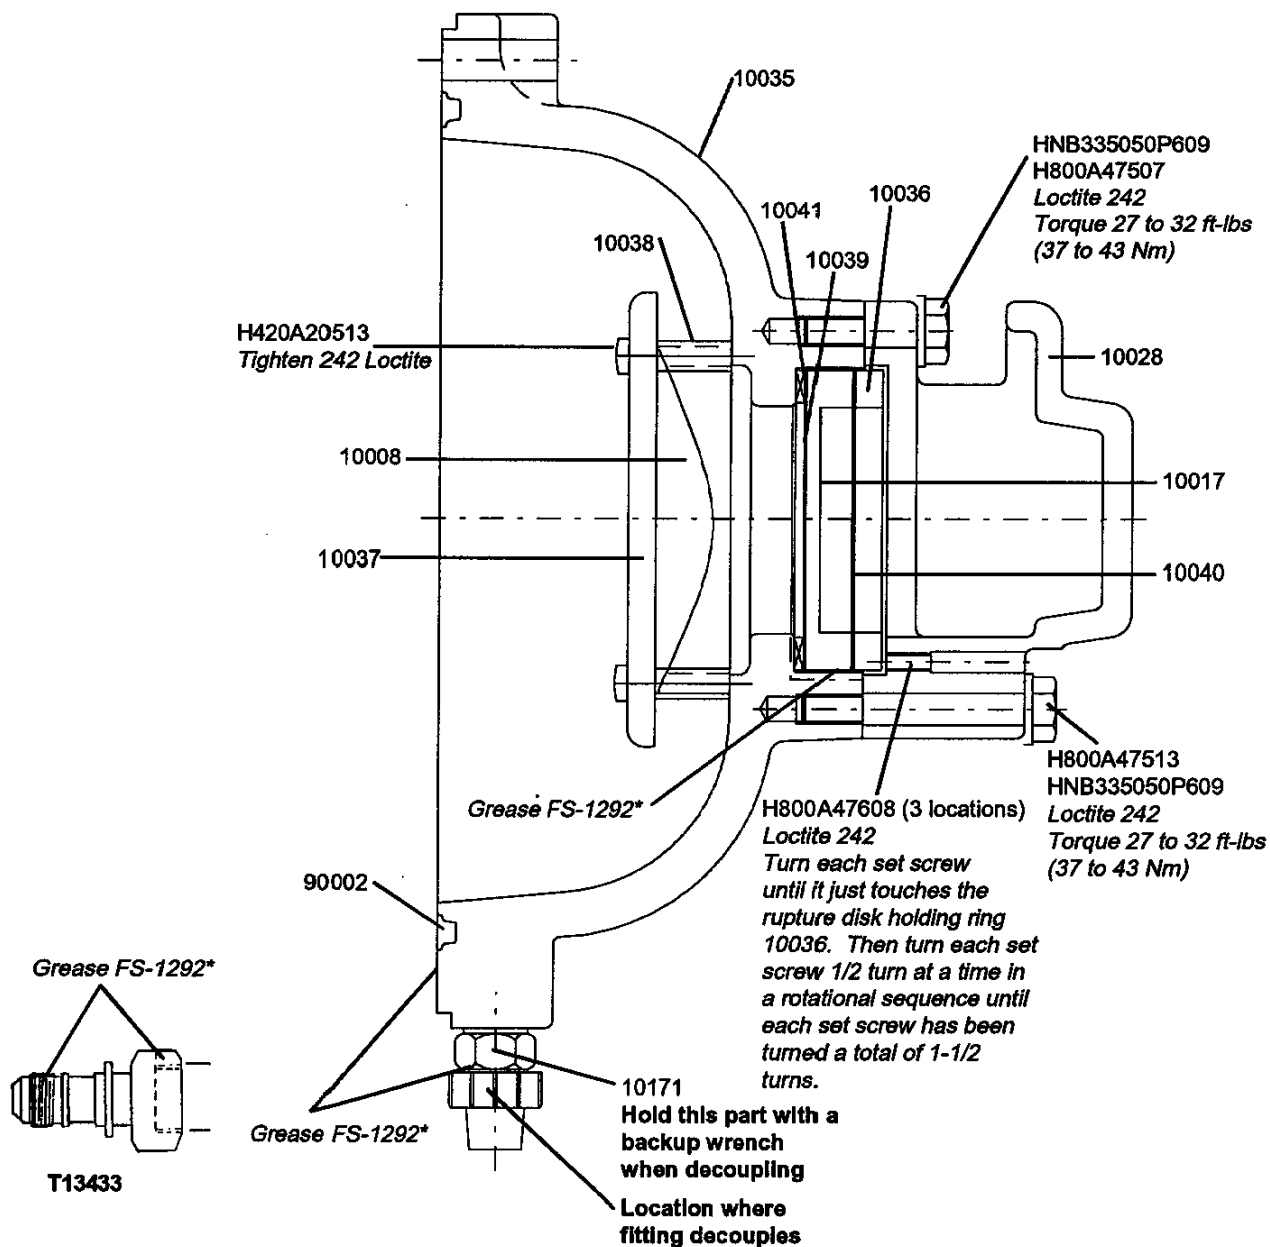

Figure 6
"Desiccant" refers to a molecular sieve which removes moisture as well as SF₆ decomposition products from the gas. A desiccant bag 10008 (Fig. 6) is installed in every pole unit at the rear tank cover assembly 10032, just behind the rupture disk.
1. Obtain a new desiccant bag 10008 (Fig. 6). These bags are shipped in a hermetically sealed reinforced aluminum foil bag to prevent contamination due to atmospheric moisture. The date of manufacture is marked on the outer bag.
3. Install the desiccant bag by removing the three M6 Phillips head bolts H420A20513 (Fig. 6), which hold the cover 10037 and spacers 10038 in place. Place the new desiccant bag between the cover and spacers and reinstall. Apply Loctite 242 and tighten each bolt. (Refer to Plate 7.)
To install the rear tank cover assembly 10032 (Fig. 6) with desiccant:
General gas filling procedures are discussed in detail in the Maintenance module of this manual. After completing work inside the pole unit and immediately before closing the tank, install a new desiccant bag 10008 (Fig. 6) in the rear tank cover assembly 10032 (as per section 3.9) and re-install the rear tank cover assembly (as per section 3.10).
1. Install the DILO quick disconnect tool T13433 (Fig. 6) to the hose of the gas service unit.